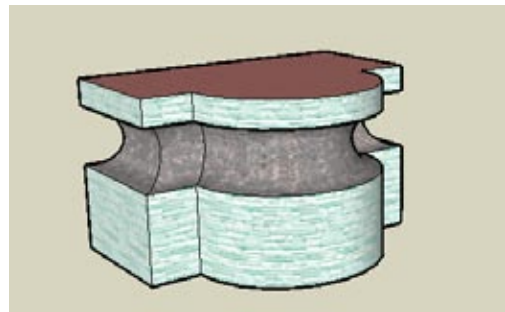

Figure 2-8
5. Click the top face, and the same volume is removed (Figure 2-8).